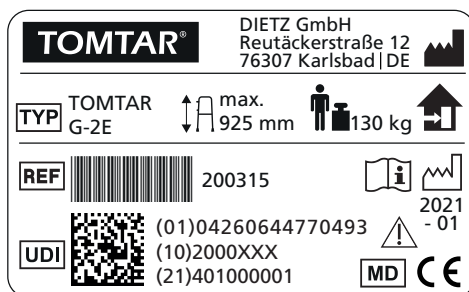

Fig. 7
4. You can now move one side of the walking frame forwards (1, Fig. 7) by lifting it up slightly and setting it down a little further in front of you.
6. Once all four legs of the walking frame are in firm contact with the floor, you can take one step forwards on the same side as the part of the frame you have just moved (2, Fig. 7).
The next page contains a table with a detailed explanation of all the symbols and information on the product label (Fig. 7). The product label also contains the serial number of your walking aid.